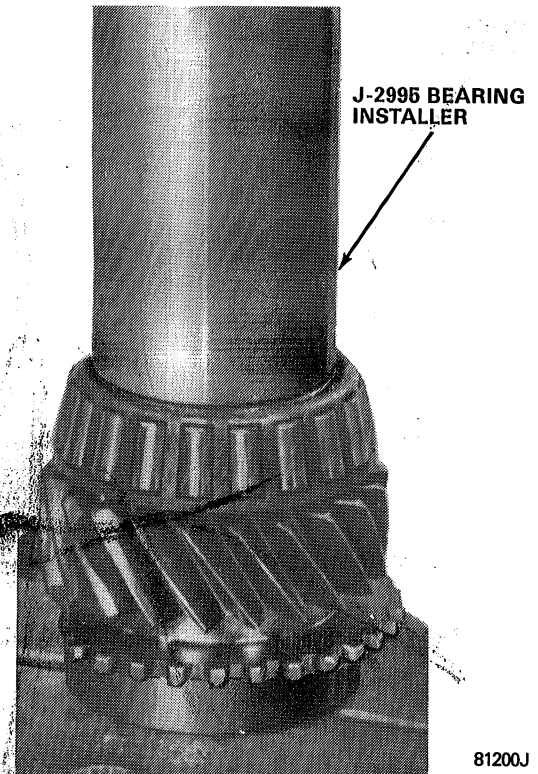

Fig. 2B-35 Clutch Shaft Bearing Installation
(13) Install clutch shaft in case and engage shaft in third-fourth synchronizer sleeve and blocking ring.
(14) Install replacement oil seal in front bearing cap using Tool J-26625 (fig. 2B-36).
(15) Install replacement oil seal in rear adapter housing using Tool J-29184 (fig. 2B-37).
(16) Install front bearing race in front bearing cap. Do not install shims at this time.
(17) Install front bearing cap. Do not apply sealer at this time.
(18) Install reverse lever, pivot pin and retaining C-clip. Coat pivot pin threads with sealer. Be sure reverse lever fork is engaged in reverse idler gear.
(19) Coat countershaft rear bearing race and thrust bearing with petroleum jelly and install in extension/adapter housing.
(20) Temporarily install adapter housing. Do not seal housing to case or tighten bolts to final torque values at this time.